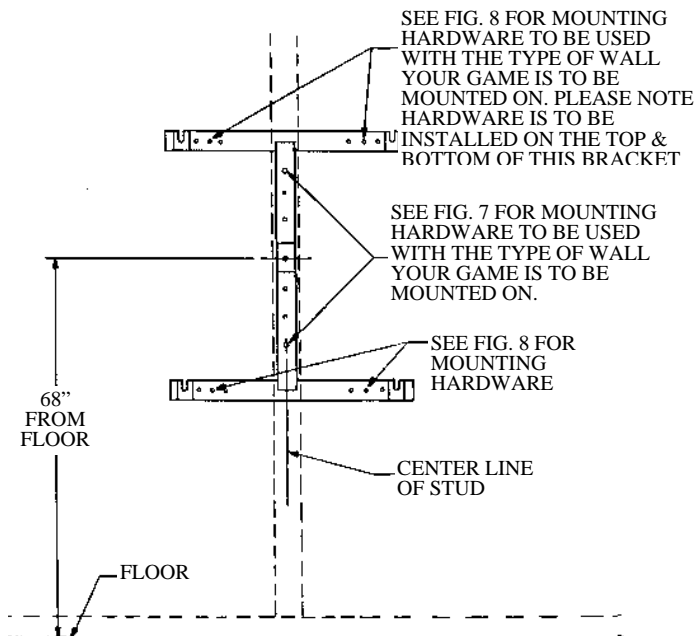

Figure 12 - WALL BRACKET
7. With the bracket not moving and level, mark the holes shown in Figure 12. Swing the bracket to the side and install (4) Molly bolts into the outer holes. Then, install and tighten all remaining screws.